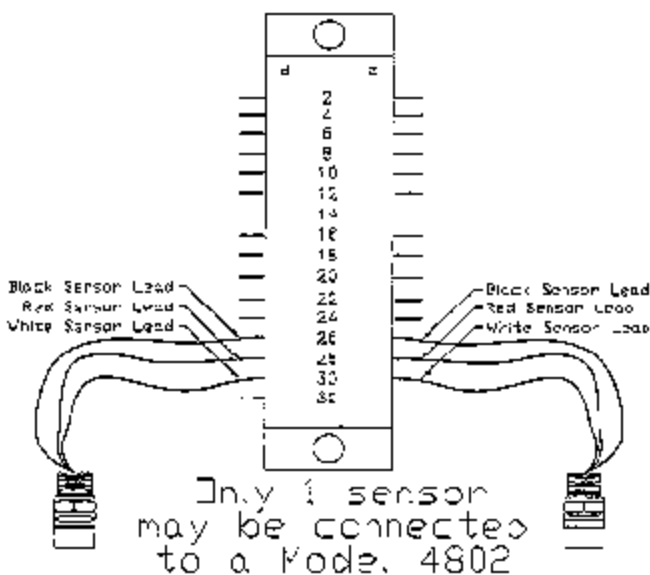

Figure 8
Figure 8 illustrates the Sensor/Controller connections.
- The Catalytic Bead Sensor input consist of the standard three lead connections used with General Monitors Catalytic Bead Sensors. See figure 8 on page 10 of this manual.